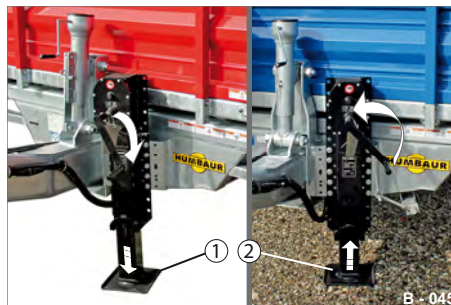

Fig. 38 Height equalisation / alignment
► Crank the foot of the geared support (Fig. 38/1) down or up (Fig. 38/2).